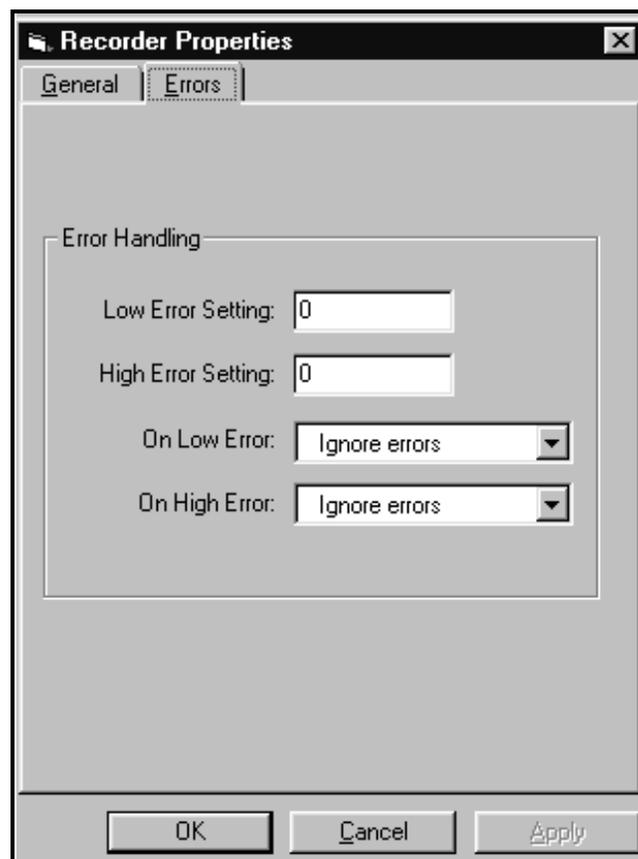

Figure 4-7: Recorder Properties Window - Error Handling
1. To program the Series 1 for error handling, click on the “Errors” tab. The screen appears similar to Figure 4-7 below.